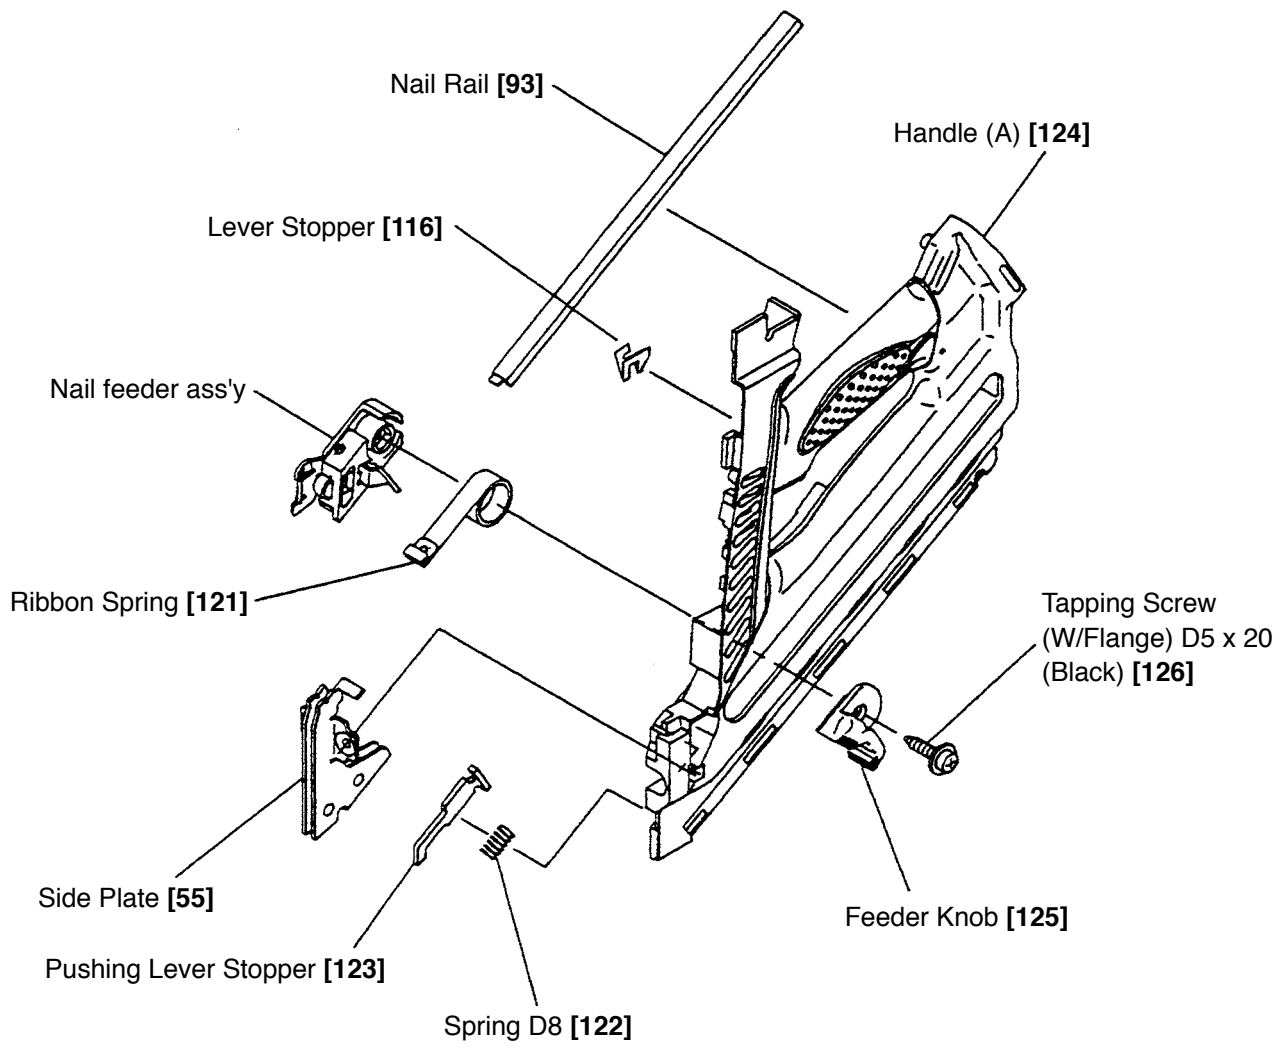

Fig. 51
(2) Disassembly and reassembly of Handle (A) [124], nail feeder and the related parts (Fig. 51)